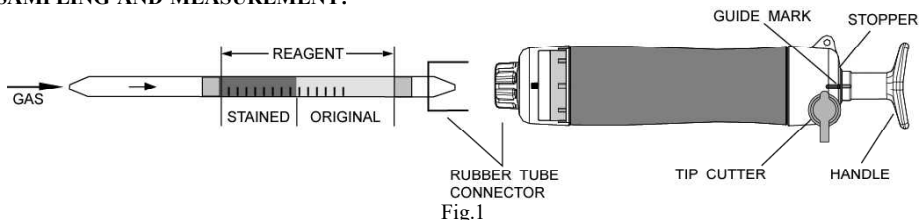

Fig.1
- ② Insert the detector tube into aspirating pump securely as shown in Fig.1. (Arrow mark shall point to the pump.)
- ③ Align the guide marks on the shaft and stopper of the aspirating pump.
- ④ Pull the pump handle at full stroke locked position and wait for 1 minute or until the completion of sampling is confirmed with the flow indicator of the pump (See descriptions about the flow indicator in the instructions of the pump).
- ⑤ On completion of sampling, read the scale at the maximum point of the stained layer.
- ⑥ In case that the concentration is less than 0.5 ppm, turn the pump handle right or left by 1/4 (90°), push it toward the pump without removing the detector tube from the pump inlet, turn it right or left by 1/4 (90°) and repeat the steps ③ to ④ 3 or 4 times.
- ⑦ In case of these 4 or 5 pump strokes, the following formula is available for true concentrations.